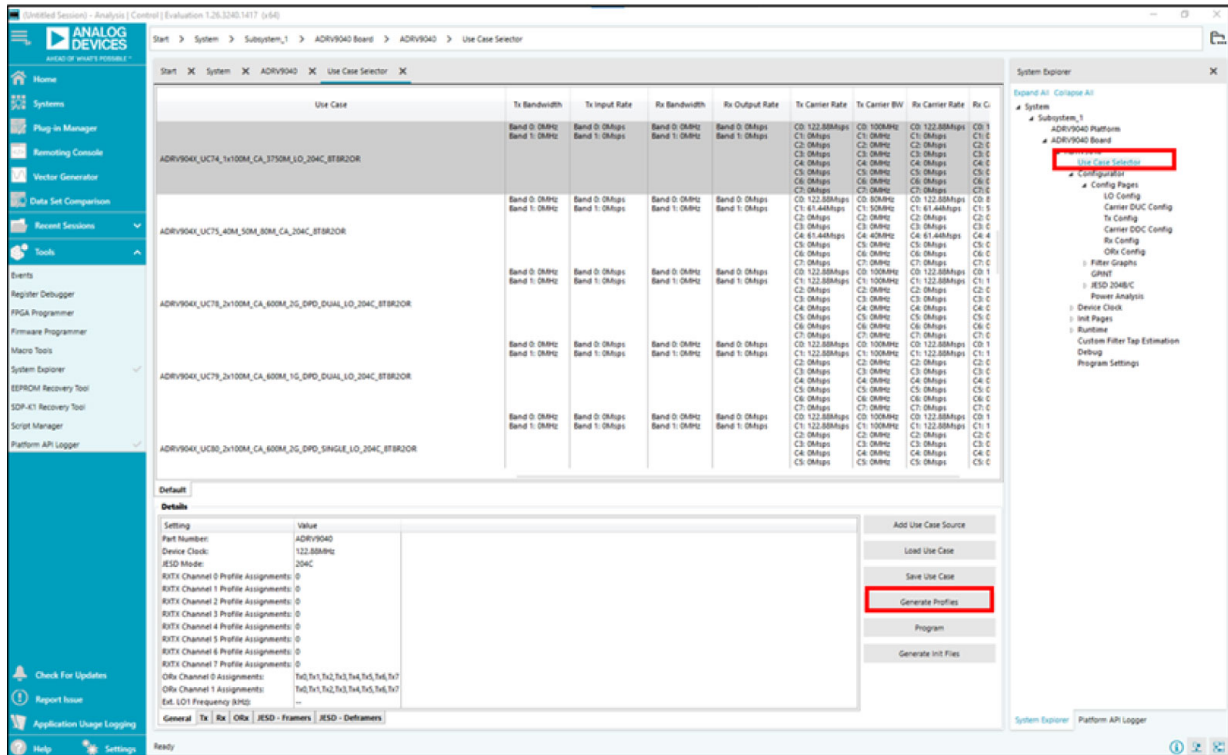

Figure 15. Generate Profiles
1. Select the desired use case from **Use Case Selector** and **Generate Profiles** as shown in Figure 15.